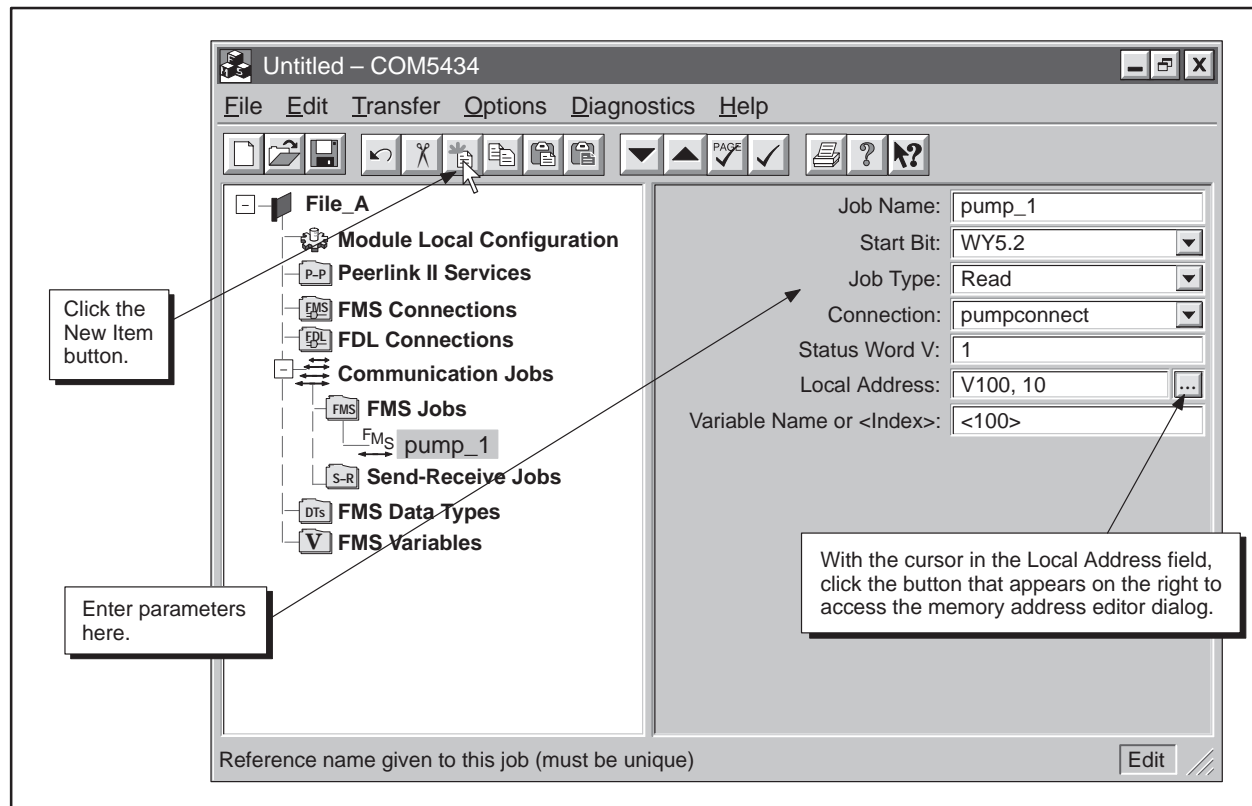

Figure 6-7 FMS Read Job Example
3. Complete the fields listed below (and shown in Figure 6-7) to configure the FMS Read job.